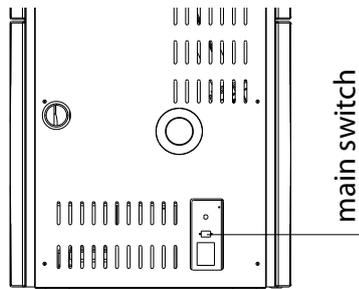

fig. 1 - Main switch
- The main switch is located on the back part of the stove (*fig. 1*);